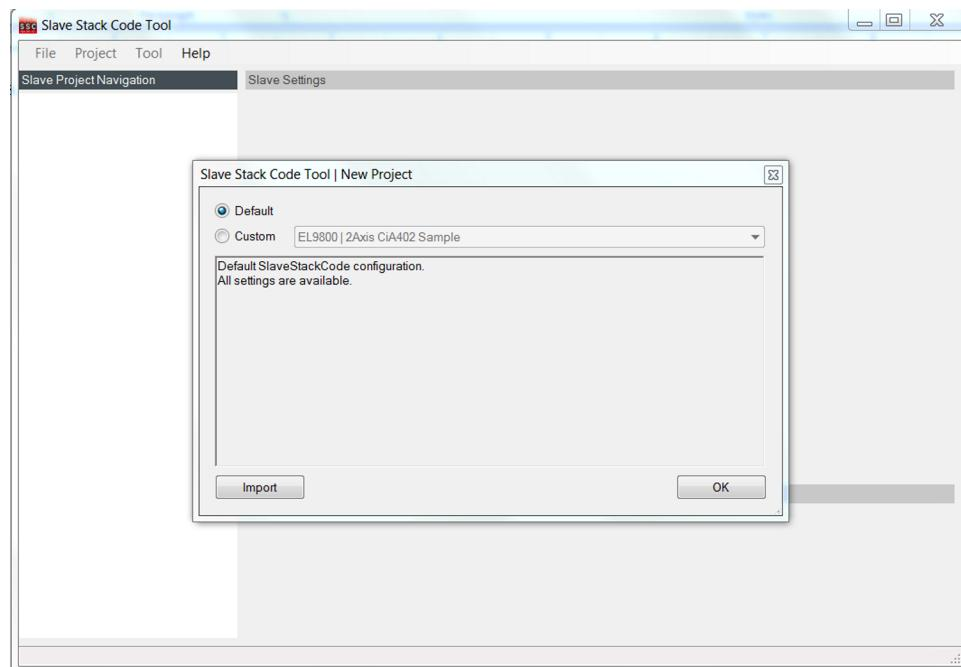

Figure 8. New Project
- After installing the SSC tool mentioned in Section 4, open the SSC tool and create a new project. The following dialog box appears (see Figure 8).